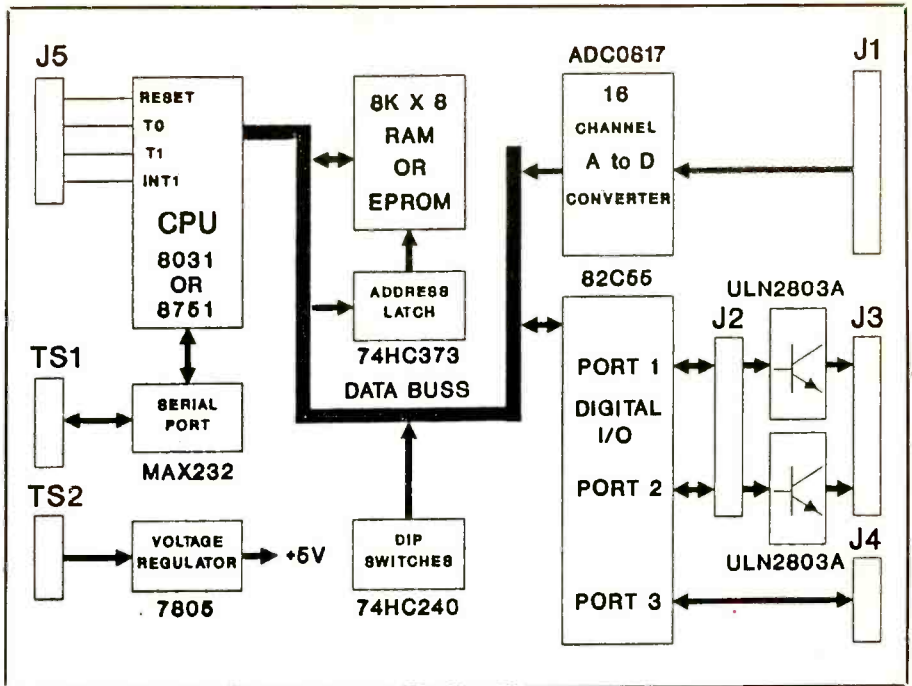
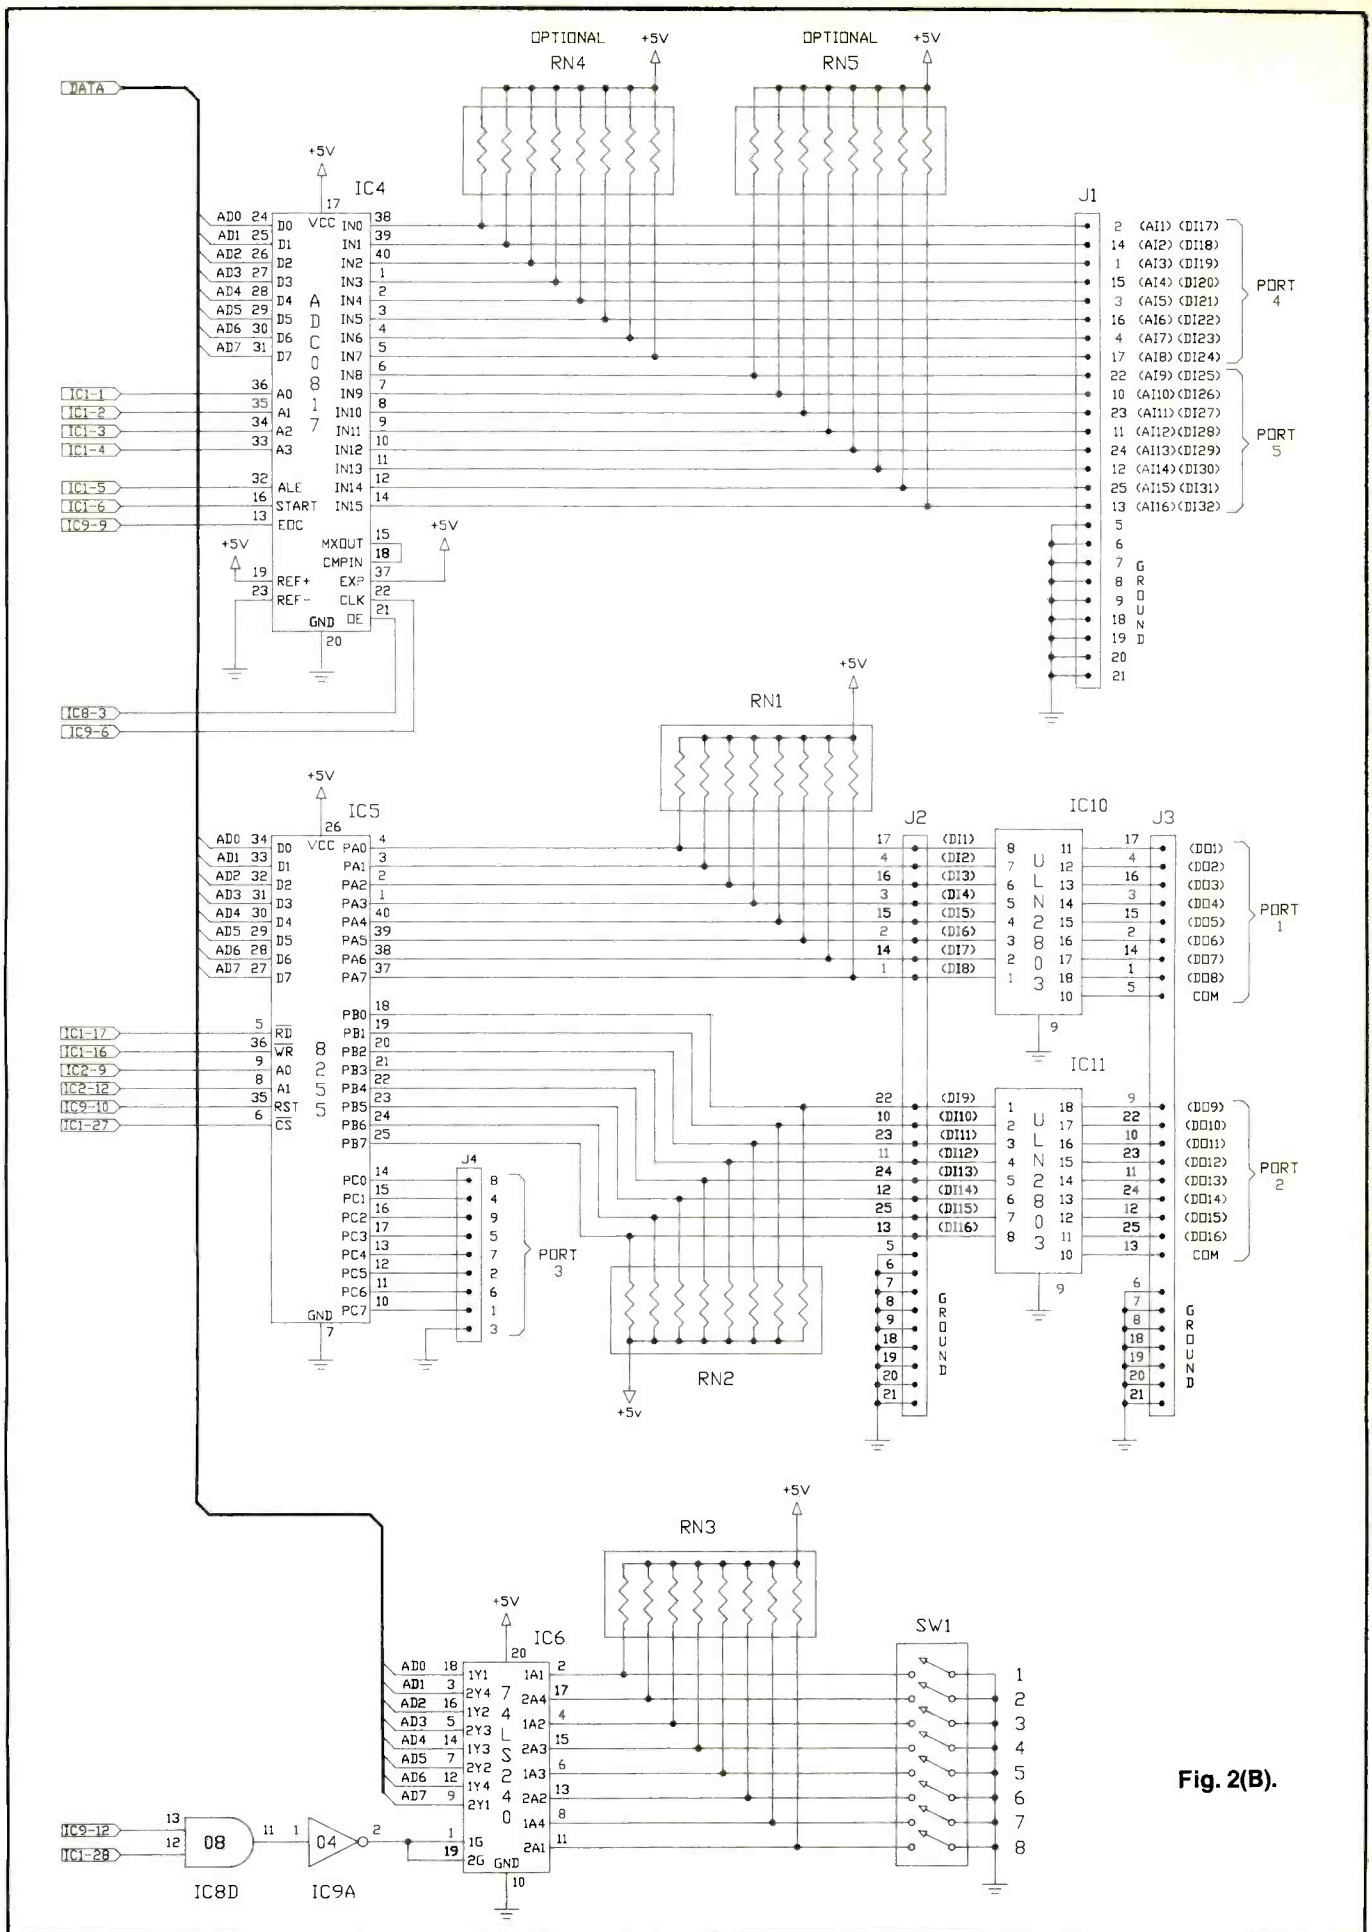

Fig. 1. Block diagram of embedded controller system.
Fig. 2(B).
Shown in Fig. 1 is a block diagram of the circuit. Because of its large size, the schematic diagram is shown here in two parts as Fig. 2(A) and Fig. 2(B). Figure 2(A) includes the embedded controller and its program memory, serial interface, clock oscillator for the A/D converter and voltage regulator. Figure 2(B) includes the analog and digital interface and configuration DIP switch port.
The heart of the circuit is 8031 embedded controller *IC1* in Fig. 2(A). Any embedded controller in the 8051 family can be used with this circuit board if jumpers *JP1* through *JP5* are properly configured. This makes the circuit useful for many custom applications.
Because the 8031 doesn't have internal program memory, the program for it would reside externally in EPROM *IC3*. Octal latch *IC2* latches the lower eight address lines during external program and data memory operations. Address lines *A0* and *A1* latched by *IC2* are also used by 8255 programmable peripheral interface *IC5* in Fig. 2(B). The reset signal for *IC1* and *IC5* is provided by *R1*, *C1* and inverter *IC9E*. Pins 1 and 2 of *J5* can be momentarily shorted together to reset the embedded controller. Jumper *J5* also provides connections to timer inputs *T0* and *T1* and the interrupt input to the embedded controller *INT1*.
The RS-232 serial port circuitry in Fig. 2(A) is simplified by the use of MAX232 *IC7*, which has built-in charge pump voltage converters and two complete RS-232 receivers and transmitters. Controller *IC1* has a built-in serial interface with a programmable baud rate generator.
tions program would typically read the baud rate selected via the settings of DIP switch *SW1* in Fig. 2(B) immediately after the circuit is powered up or reset. The RS-232 serial interface connections are made at terminal strip *TS1*.
Programmable peripheral interface *IC5* provides three eight-bit digital I/O ports. Connections to digital I/O Ports 1 and 2 are made at *J2* and *J3*, as shown in Fig. 2(B). Connector *J2* can be used for TTL-level input or output. The digital I/O at *J2* is pulled up to +5 volts so that a switch contact can be used as an input source.
In Fig. 2(B), *IC4* is an ADC0817 16-channel multiplexed eight-bit analog-to-digital (A/D) converter. The analog input connector is *J4*. Analog inputs are optionally pulled up to +5
volts by resistor networks *RN4* and *RN5*, which allows switch contacts to be used as an input source when these inputs are substituted for digital inputs. The clock input signal for A/D converter *IC4* is generated by a 640-kHz oscillator circuit consisting of ceramic resonator *CR1*, inverter *IC9B* and capacitors *C10* and *C11* shown in Fig. 2(A).
Controller *IC1* in Fig. 2(A) controls the A/D converter with I/O
Parallel port addresses are: PORT 1 = 0000H, PORT 2 = 0001H, PORT 3 = 0002H and CONTROL = 0003H. The analog input port address is decoded by *IC9F* and *IC8A* in Fig. 2(A). An analog input value is read when P2.5 (A13) at pin 26 of *IC1* goes high during execution of an external memory read instruction. The address used to read an analog input after a complete conversion is detected by *IC1* is 6000H. Note that bit 14 in the address is also set, which sets P2.6 (A14) high to keep the 8255 disabled.
Pins 5 and 13 of J3, labeled COM in Fig. 2(B) aren't the common grounds for the Darlington-array open-collector outputs. All open-collector outputs from IC10 and IC11 have an internal clamping diode. These eight clamping diodes, inside each array package, have a common connection at pin 10. These diode connections are available at J3 and are labeled COM. Use the pins labeled GROUND for output common ground.
Take note of the digital I/O pin assignments at the right side of Fig. 2(B). As you can see, pin assignments for the I/O lines of Port 1 are the same at J2 and J3. However, an offset exists between connectors J2 and J3 for the digital I/O lines of Port 2.